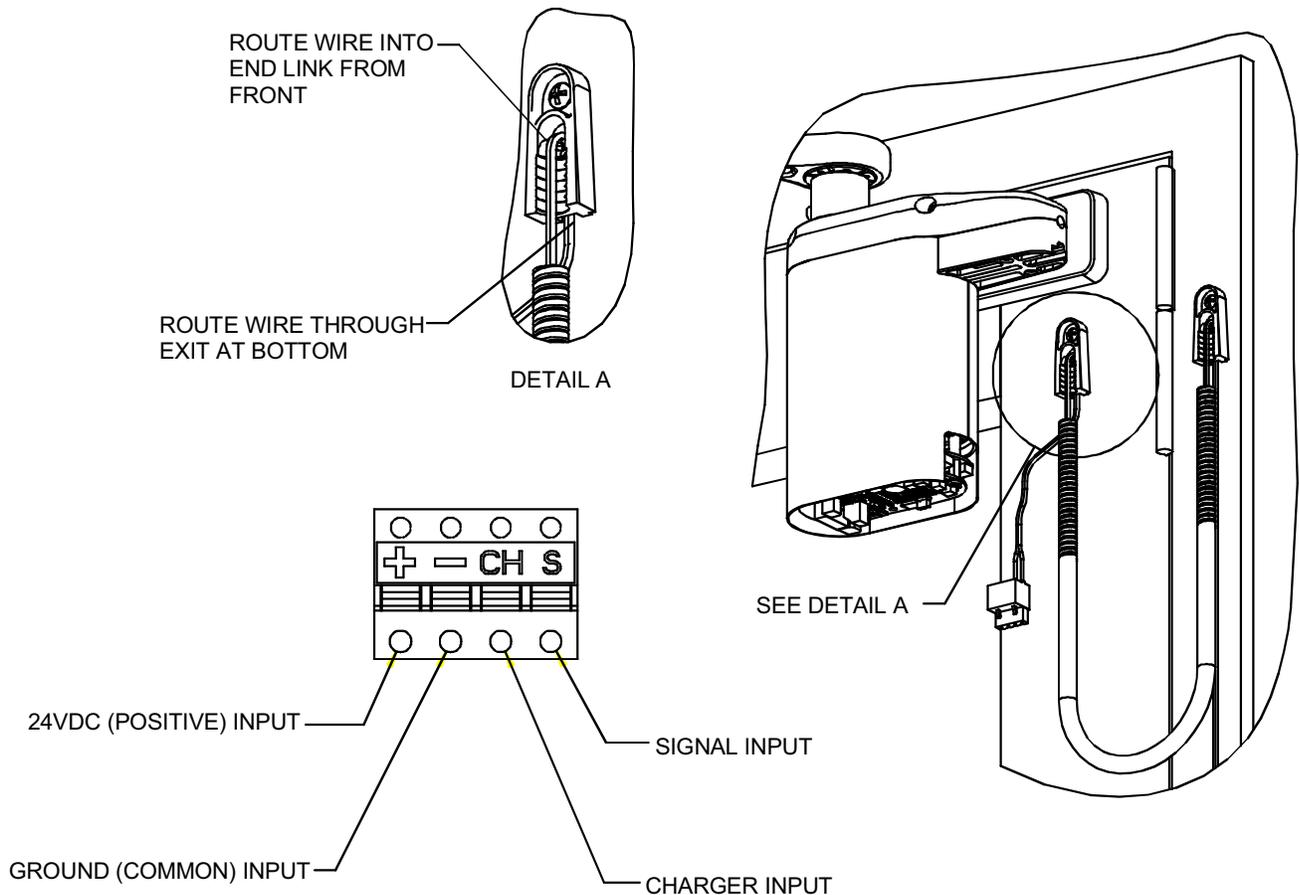

Figure 8
2. Refer To Figure 8, and ROUTE wires through armored cable end links. MOUNT the door cord end links as follows: